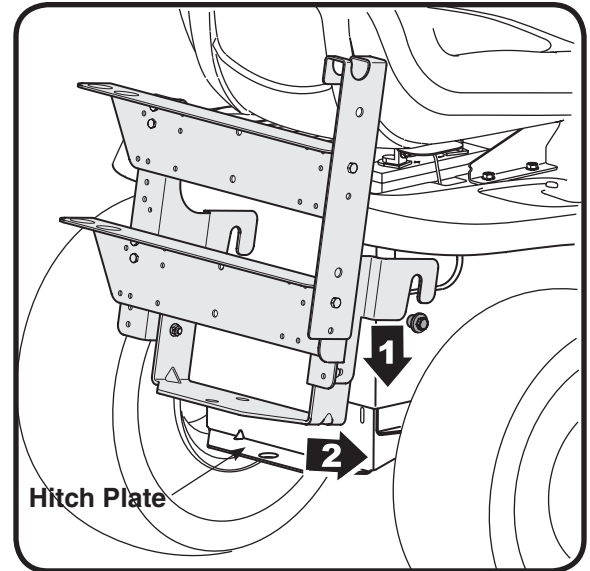

Figure 5
2. Position the hooked ends of the bracket assembly over the shoulder bolts (1). Swing in the bottom of the bracket assembly down and in (2) over the hitch plate and aligning with the hole on the hitch plate. See Figure 5.